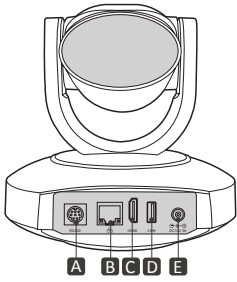

Figure 1.1
(4) USB3.0 video output
- a. USB3.0 video cable connection: HDMI Model refer to No.D in Figure 1.1.
(5) USB3.0 compatible with USB2.0 output